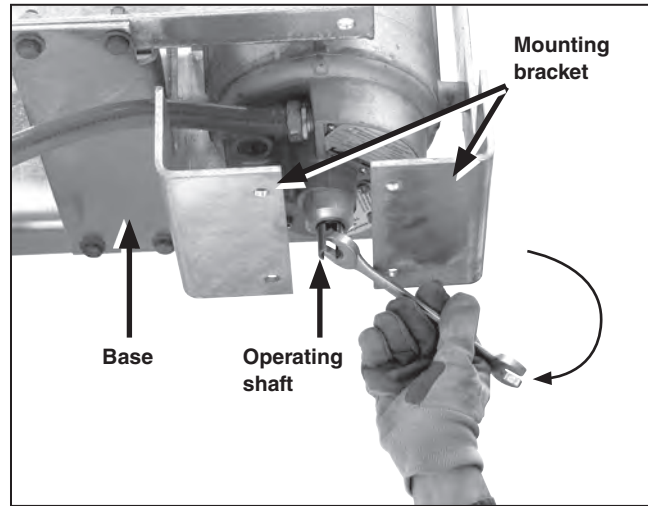

Figure 30. Rotate the operating shaft until it is centered.
- STEP 1.** Manually rotate the operating shaft counter-clockwise approximately  $\frac{1}{4}$ -turn until it is centered, as shown in Figure 30. The operating shaft pin should be parallel to the pole-unit base.